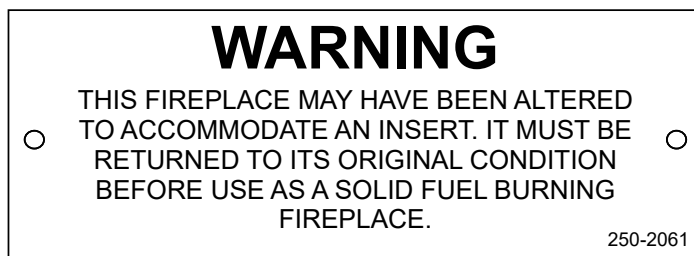

Figure 17.1
- The permanent metal warning label provided in the component pack must be attached to the back of the fireplace, with screws or nails, stating that the fireplace may have been altered to accommodate the insert, and must be returned to original condition for use as a conventional fireplace (**Figure 17.1**).